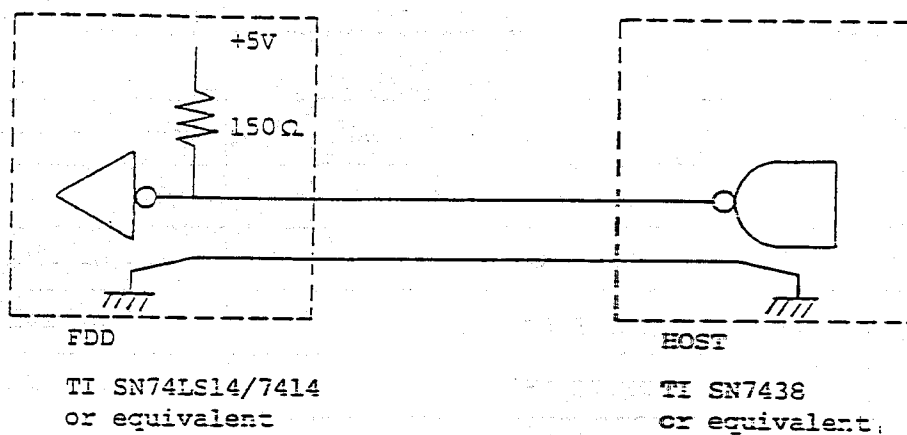

Fig. 3-1 Figure
| (1) Input circuit | See Fig. 3-1 |